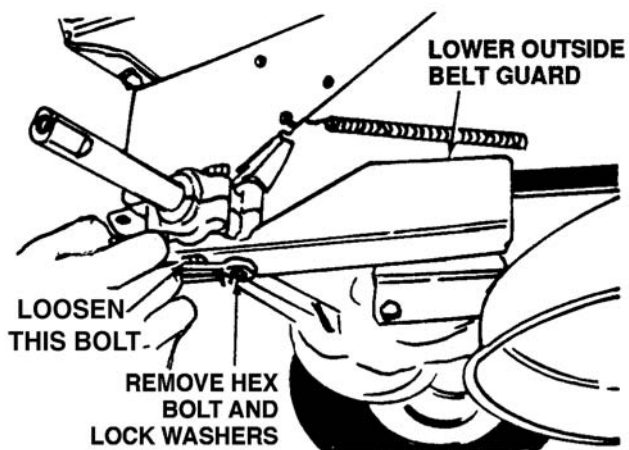

Figure 12-9. Removing Deck
2. Remove one hex bolt and lock washer at the front of lower outside belt guard. A 1/2 inch wrench is required. See Figure 12-9.